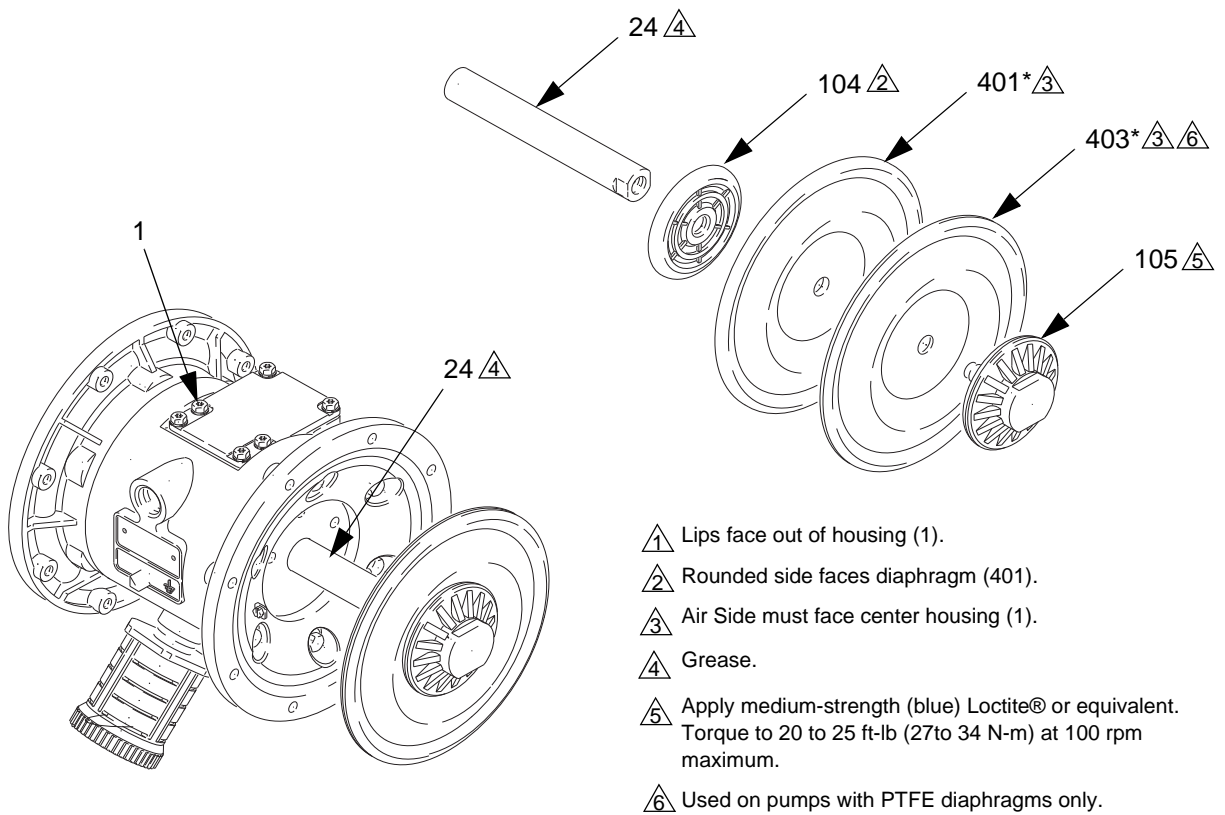

Fig. 13
4. Unscrew one outer plate (105) from the diaphragm shaft (24). Remove one diaphragm (401), and the inner plate (104). See Fig. 13.
1. Grease the shaft u-cup packings (402*) and install them so the lips face **out** of the housing (1). See Fig. 13.
2. Grease the length and ends of the diaphragm shaft (24), and slide it through the housing (1).
3. Assemble the inner diaphragm plates (104), diaphragms (401*), PTFE diaphragms (403*, if present), and outer diaphragm plates (105) *exactly* as shown in Fig. 13. These parts **must** be assembled correctly.
4. Apply medium-strength (blue) Loctite® or equivalent to the threads of the fluid-side plates (105). Hold one of the outer plates (105) with a wrench, and torque the other outer plate to 20 to 25 ft-lb (27 to 34 N-m at 100 rpm maximum). **Do not over-torque.**
1. Lubricate and install the shaft u-cup packings (402*) so the lips face **out** of the housing (1). See Fig. 13.
2. Assemble the air side plate(104) onto the diaphragm (403). The wide, radiused side of the plate must face the diaphragm. Apply medium-strength (blue) Loctite® or equivalent to the threads of the diaphragm assembly. Screw the assembly into the shaft (24) hand-tight.
3. Grease the length and ends of the diaphragm shaft (24). Insert the shaft/diaphragm assembly into one side of the pump. Align the fluid cover (101) and the center housing (1) so the arrow (A) faces the same direction as the air valve. Secure the cover with the screws (107 and 108), handtight.
4. Torque the longer screws (106) oppositely and evenly to 130 to 150 in-lb (14 to 17 N-m), using a 13mm socket wrench. Then torque the shorter screws (112). See **Torque Sequence**, page 32.
6. Remove the air cover gaskets (22). Always replace the gaskets with new ones.
7. Use a bearing puller to remove the diaphragm shaft bearings (19), air valve bearings (12) or pilot pin bearings (15). Do not remove undamaged bearings.
8. If you removed the diaphragm shaft bearings (19) reach into the center housing (1) with an o-ring pick and hook the u-cup packings (402), then pull them out of the housing. Inspect the packings. See Fig. 13.